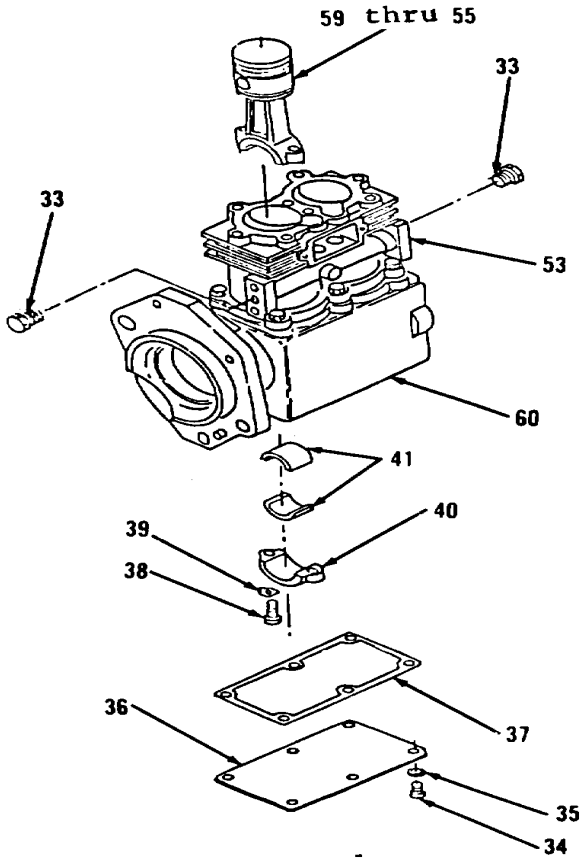

Figure 6-55.
- 17. Lubricate and install one of two bearing halves (41, Figure 6-55) on upper half of journal.
- 18. Position items 59 thru 55 as an assembly on upper half of one of two bearing halves (41) and journal.
- 19. Position one of two bearing halves (41) and cap (40) on lower half of journal.
- 20. Install four lockwashers (39) and bolts (38). Tighten four bolts (38) evenly. Bend four lockwashers (39) up against hex heads of four bolts (38).
- 21. Position new gasket (37) and cover (36) on bottom of crankcase (60).
- 22. Install six lockwashers (35) and bolts (34).
- 23. Install two plugs (33) in block (53).